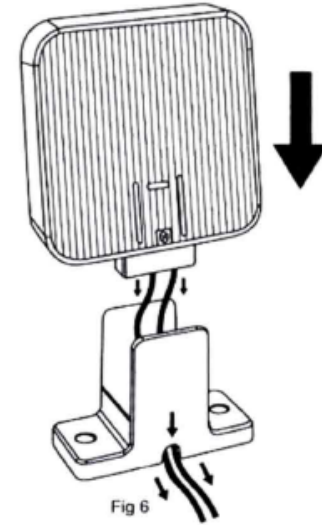

Fig 6
7. Fix the black base and yellow cover with crew the Ø2.3\*8, run the cables coming from the black base through the holder's hole Fig 6.